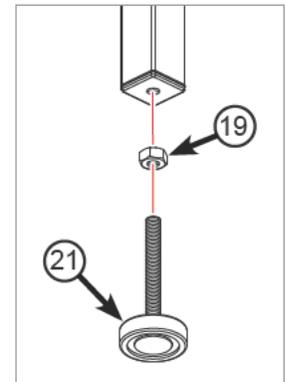

Fig. 21
- Locate the two support legs and remove the two feet from the T-Glide Table Hardware Pack along with two M8 hex nuts. Thread an M8 hex nut onto the threaded shaft of each foot so that the nut is close to the rubber base, and then thread the foot into the bottom of the support leg as far as possible (See Fig. 21).